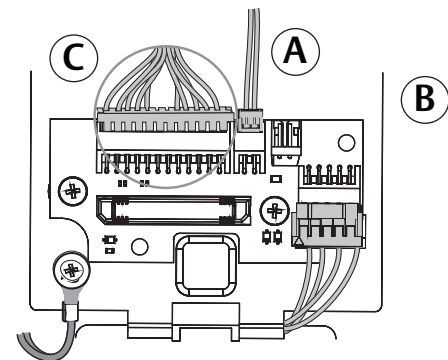
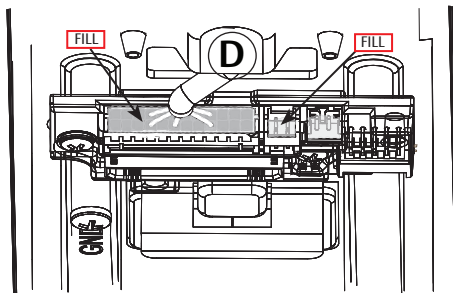

Figure 6-3B
Figure 6-3C
3. Secure the following connectors (Figure 6-3B, Figure 6-3C).
- Secure the mounting assembly while ensuring proper alignment of outside reader and fully tighten the (2) through-bolts on the inside of the door to secure the reader and plate to the door
- C. Secure the 24-pincard reader connector. (Figure 6-3B, Figure 6-3C)
- D. Ensure all openings on back of secured reader connector are covered completely with grease. (Figure 6-3C)